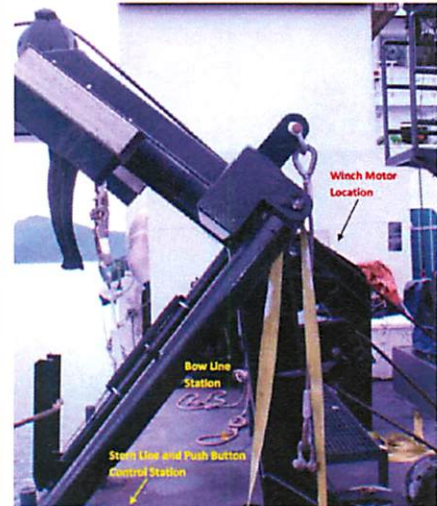

Figure 1 – Davit and station locations
The Fast Rescue Boat (FRB) returned to ship side after launching to conduct a man overboard drill as part of the Fleet Inspection process. A crew of four assembled to recover the FRB – the Acting Chief Bosun (ACB) manned the power control station, an AB manned the Bow Line, another AB manned the stern line, and another AB manned the manual winch crank station (see Figure 1).
3. The person manning the power controls does not have a clear line of site to the winch motor/handle location (Figure 1). It appears that the manual crank handle was inserted during the brief time when the lines were being straightened, just prior to applying power to the winch.